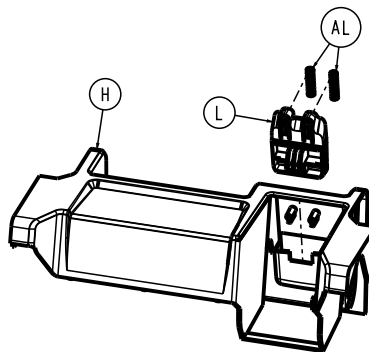

Figure 39 –
Note - The battery release button (L) and compression wires (AL) may fall out while you route the battery housing assembly from the power box upper cover (H) (Figure 39). Reinstall the battery release button and compression wires, if necessary.
6. Remove and discard both compression wires (AL) (Figure 39).